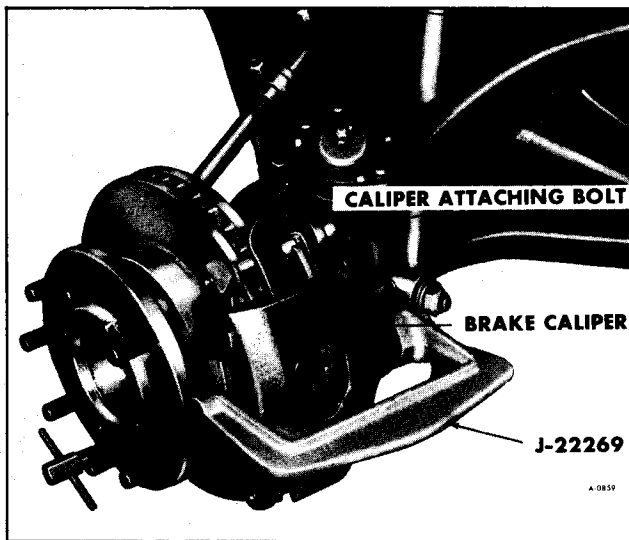

Figure 5—Caliper Removal
4. Position Tool J-22269 on caliper as shown in Figure 5.
6. Remove the two caliper to knuckle attaching bolts. (figure 5).